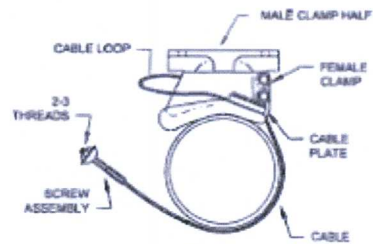

Figure 1
1. Place Female Clamp Half on mast arm as shown in Figure 1. Leave two to three (2-3) threads exposed above the nut on the Cable Screw Assembly as shown.